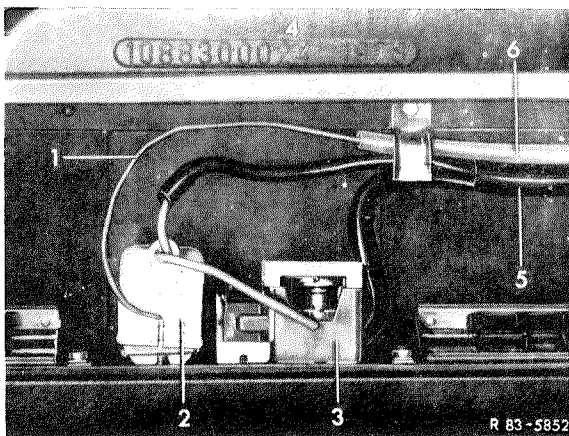

Fig. 83-11/4
The selected temperature is maintained constant by a temperature sensor (1). This sensor is located between the cooling fins of the evaporator and controls the temperature by switching on or off the magnetic clutch of the compressor (Fig. 83-11/4).